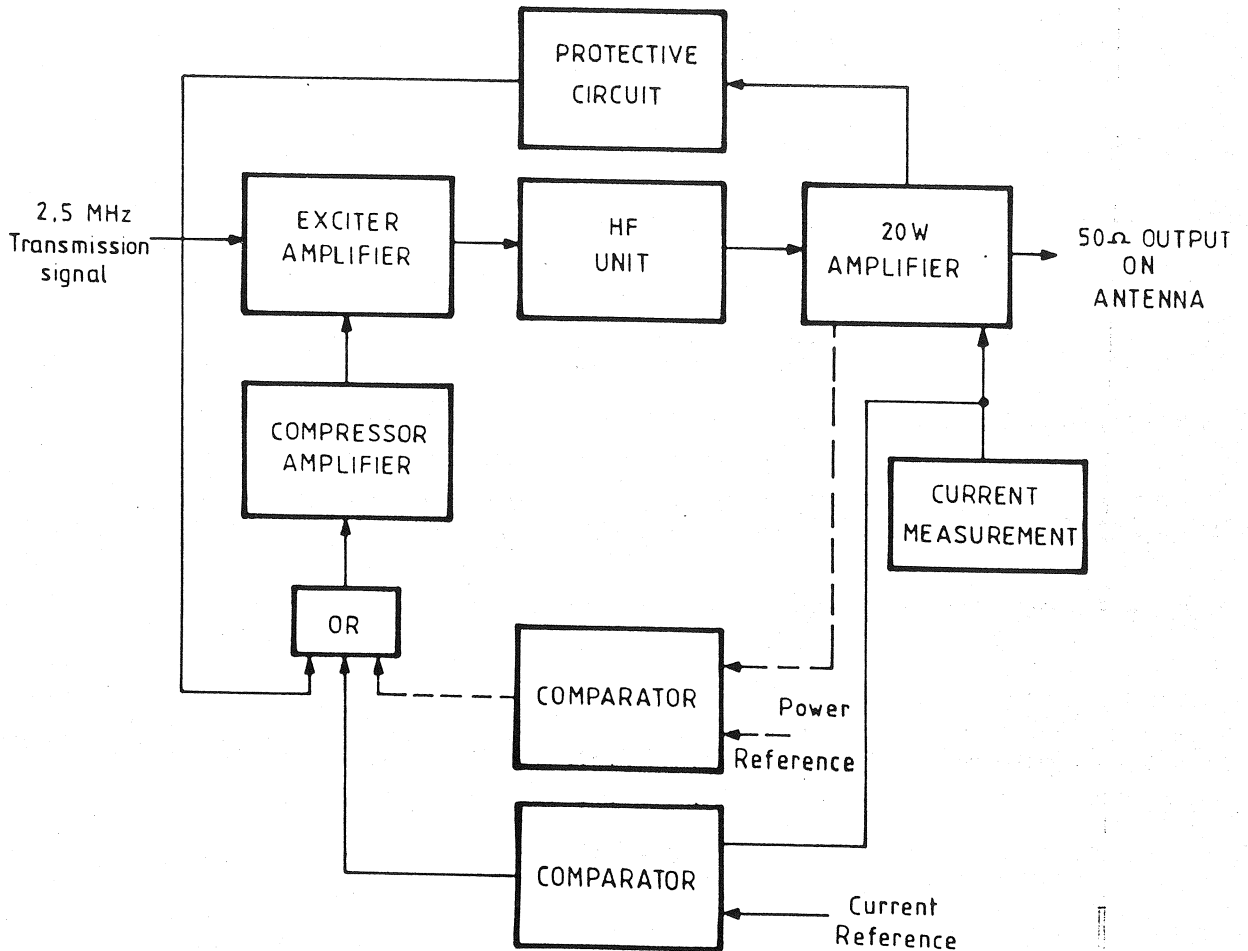

Fig. 3A.7
- b Compressor Control Loops:— There are three compressor control loops as shown in Figure 3A.7